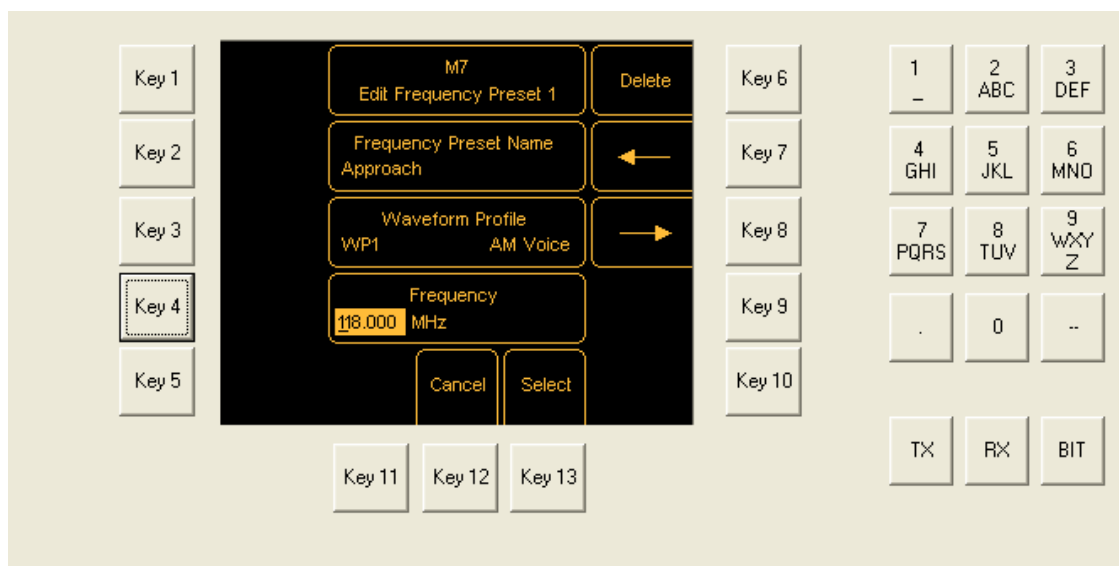
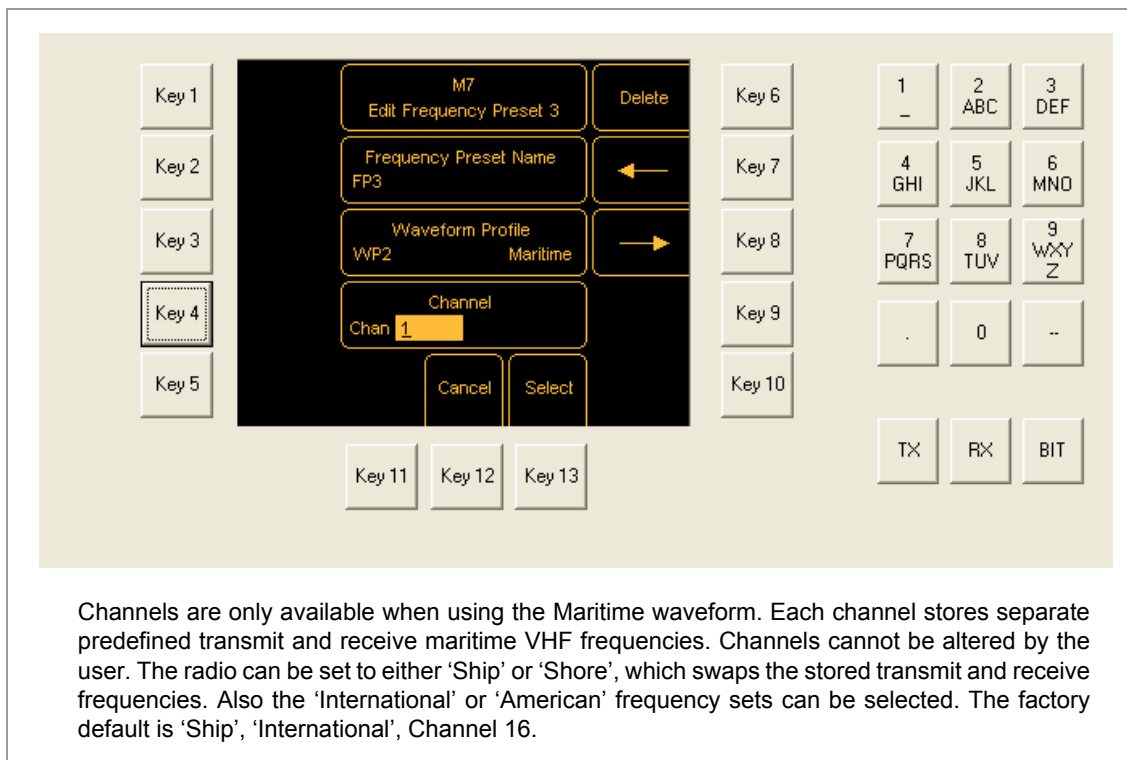

Fig 3-44 Select Frequency
Fig 3-45 Frequency Preset – Select Maritime Channel
- (6) From the Frequency Preset Edit screen, press **Key 4 – Change** to select the required Frequency (Fig 3-44). Using the keypad, enter the required frequency. [Note that any offset frequency is a parameter of the waveform profile; the operating frequency should *not* include any offset.] If a Maritime waveform profile is selected, a channel selection is required as shown in Fig 3-45.